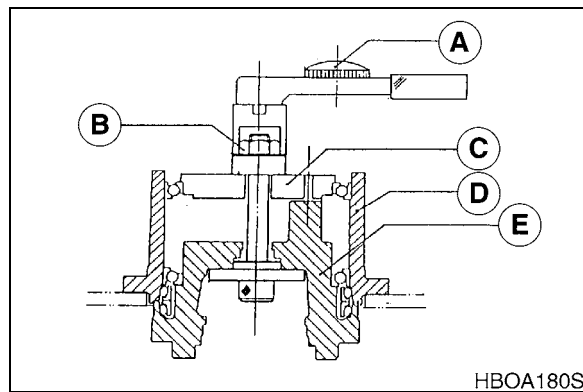

Figure 97
1. Install main bearing preload adjustment jig (C, Figure 97) at spindle (D) (2).
6. Remove main bearing preload adjustment jig (C, Figure 97) from spindle (2).